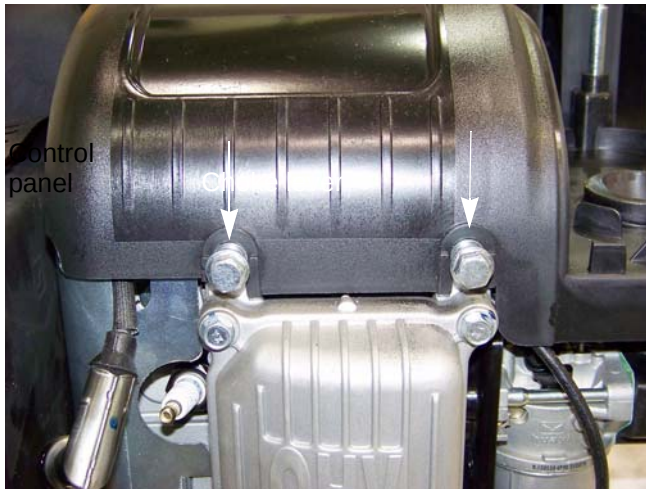

Figure 3.6
3. Loosen the two shoulder bolts (indicated by the arrows in Figure 3.6.) using a 12 mm wrench.